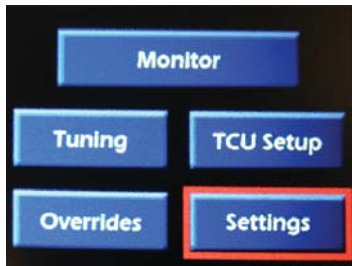

Figure 30
1. To alter, select “**SETTINGS**” using the “**UP**” and “**DOWN**” arrow buttons and press the “**OK**” button. (Figure 30).